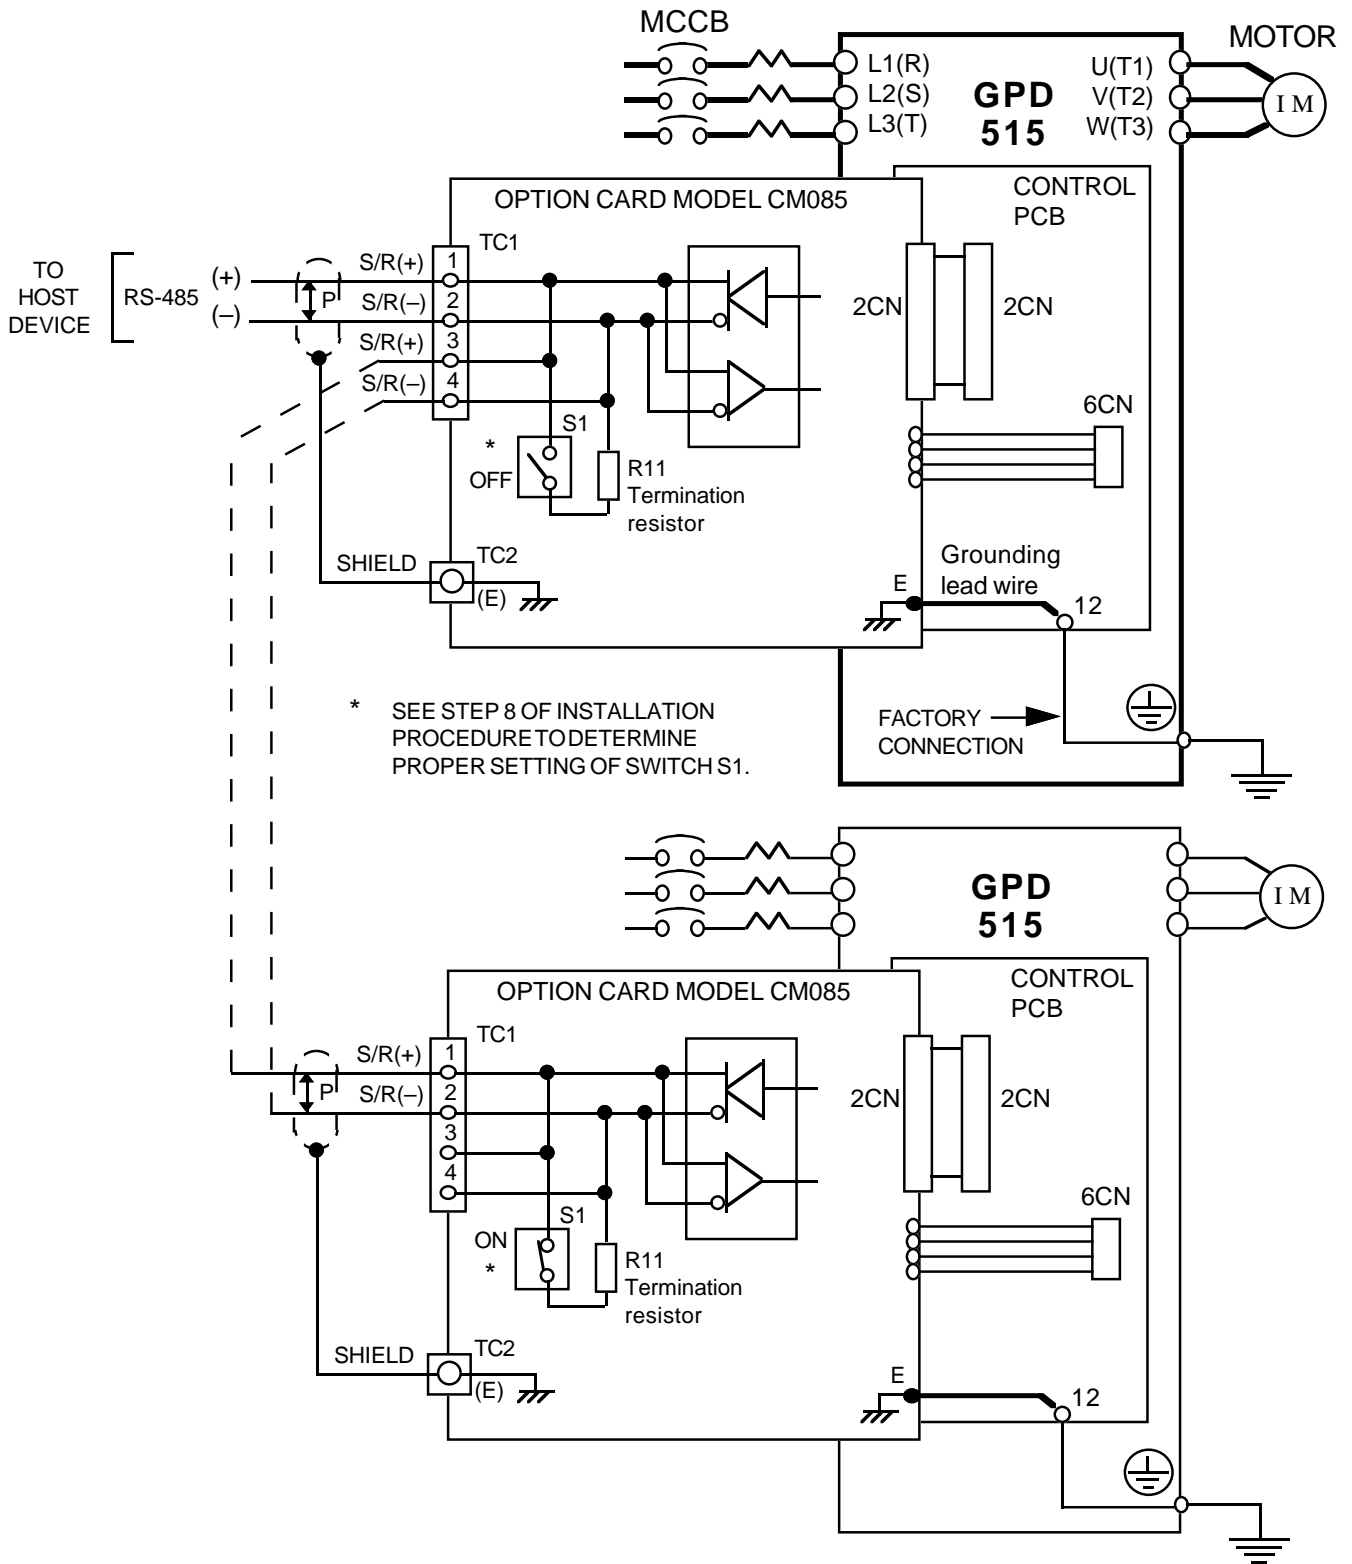

Figure 3. CM085 Interconnection Diagram
7. **Wiring.** Refer to Figure 3 and Tables 1 & 2. Make wire connections between the CM085 card and the external (host) device with which the Drive will be communicating, using shielded twisted pair wire. If multiple Drives (with RS-485 Interface cards) are to be connected to the same external device, they must be connected in series – the second, third, etc. through the final Drive are all “daisy-chained” to the first Drive. Observe the following while wiring: